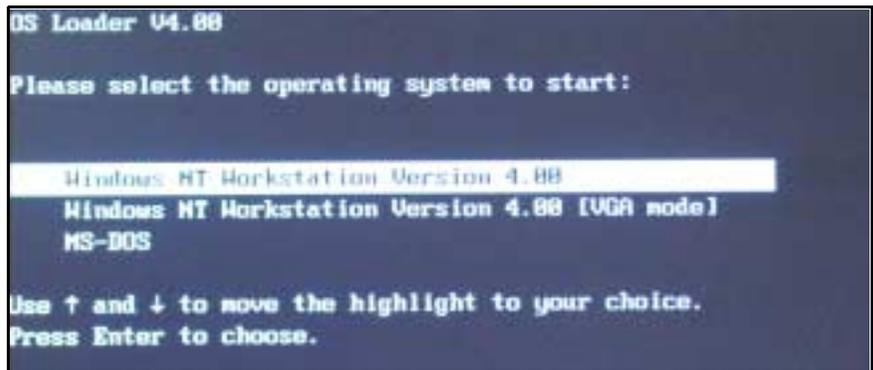

Figure 4-9 Windows Login Screen
16. Verify that MDS boots to Windows NT OS loader screen (see Figure 4-9), and then automatically continues to Hardware Profile/Configuration Recovery Menu.